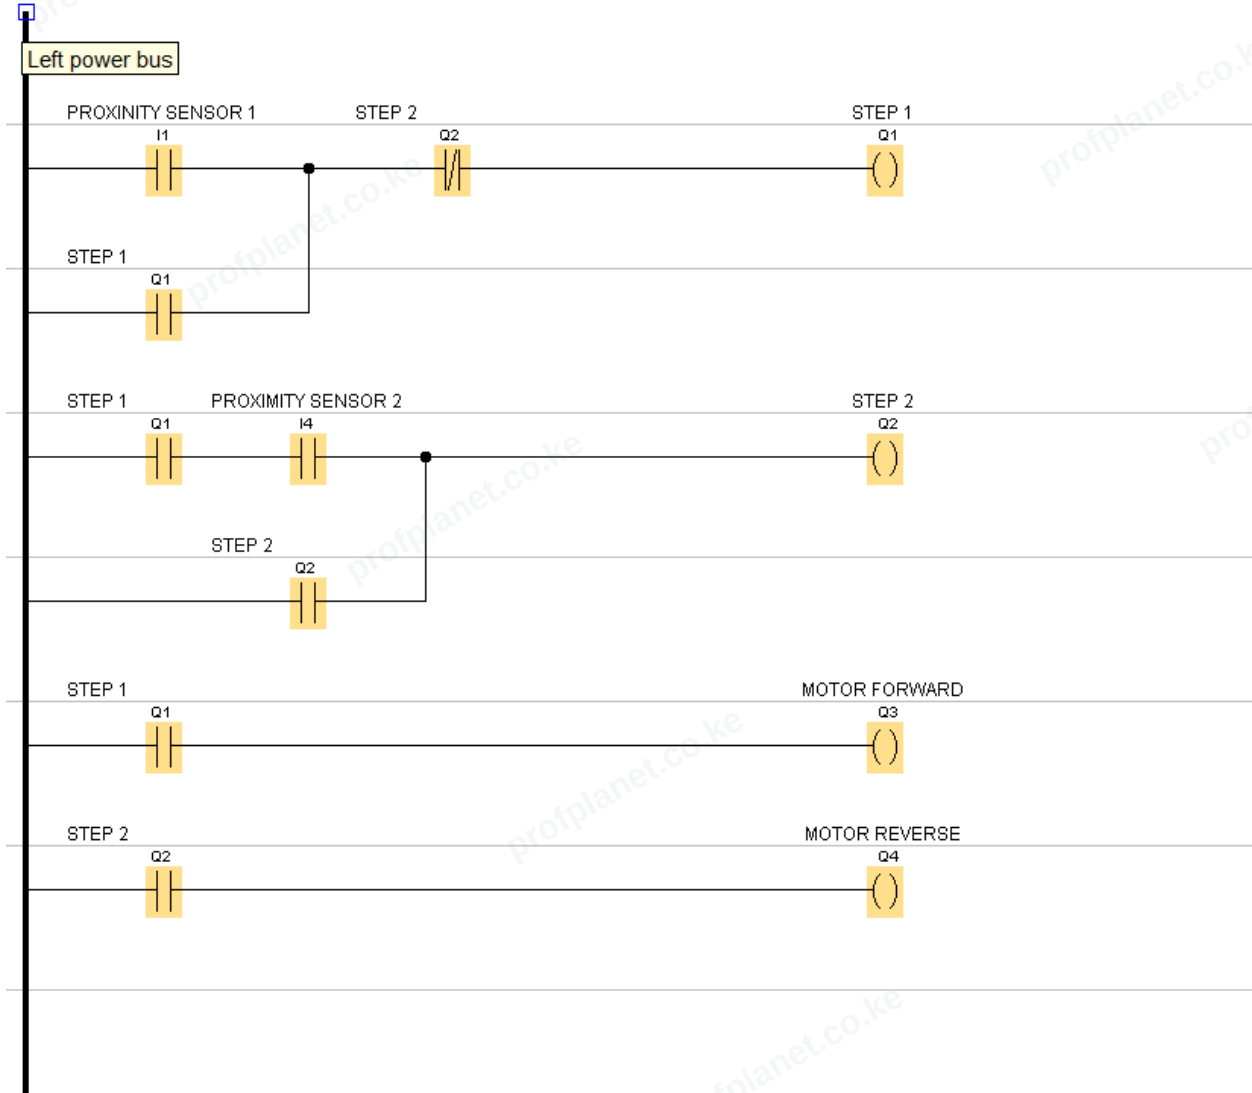

Figure 2
- b. Install and simulate the program in Figure 2 into the system